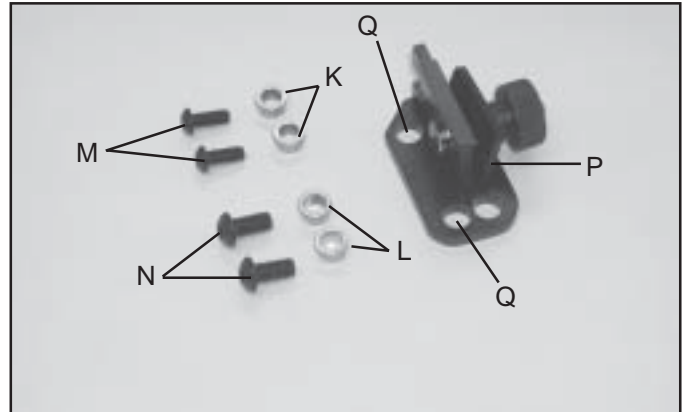
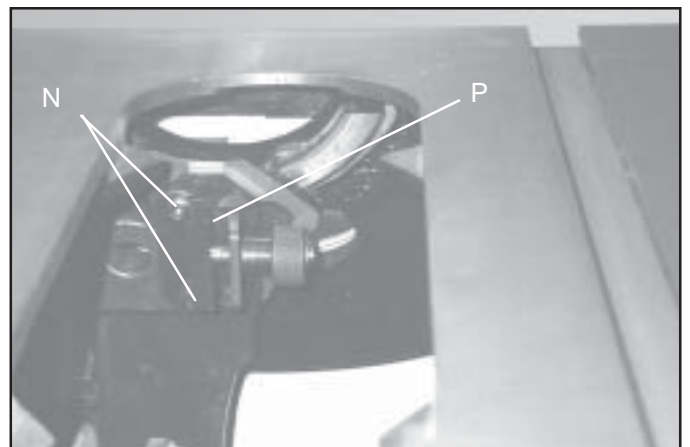
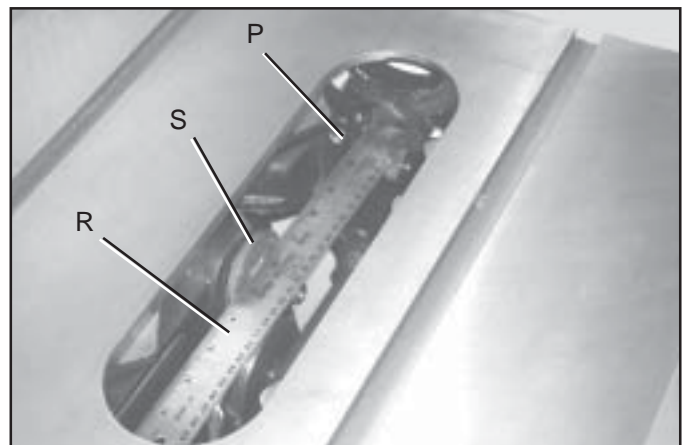
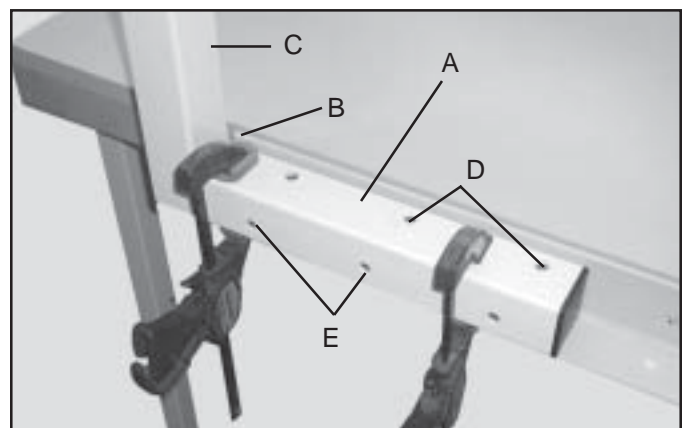

Fig. 8
Fig. 9
Fig. 10
Fig. 14
5. Locate two bushings each, (K) and (L) Fig. 8, two 1/4-20 x 5/8" button head screws (M); two 5/16-18 x 5/8" button head screws (N) and splitter mounting bracket assembly (P). **NOTE: Bushings (K) with smaller I.D. hole and two 1/4 x 5/8" long screws (M) are used when mounting the splitter to the Delta 10" tilting arbor saw and the 10" Contractors saw. Bushings (L) Fig. 14, with the larger I.D. holes and two 5/16-18 x 5/8" long button head screws (N) are used when mounting the splitter bracket to a 10" Unisaw.**
6. Depending on what saw you are using, insert bushings (K or L) Fig. 8, into holes (Q) in the splitter mounting bracket.
8. Assemble the splitter mounting bracket (P) Fig. 9, to the inside of rear trunion using two button head screws (N) Figs. 8 and 9, since we are mounting the splitter to a 10" Left tilting Arbor Unisaw. **NOTE: Just snug up button head screws at this time.**
9. Using a straight edge (R) Fig. 10, align the top portion of splitter mounting bracket (P) to saw arbor (S) as shown. Then tighten two screws (N) Fig. 9.
12. Clamp the guard mounting bracket (A) Fig. 14 to the back rail (B) of the fence system, making sure the inside of the vertical post (C), is approximately 1/4" past the end of rail (B).
13. Using a 9/32" drill bit, drill six holes in the rear rail, three each to be drilled into the horizontal and vertical portion of the back rail (B), using the holes (D) and (E) in the mounting bracket as a template.